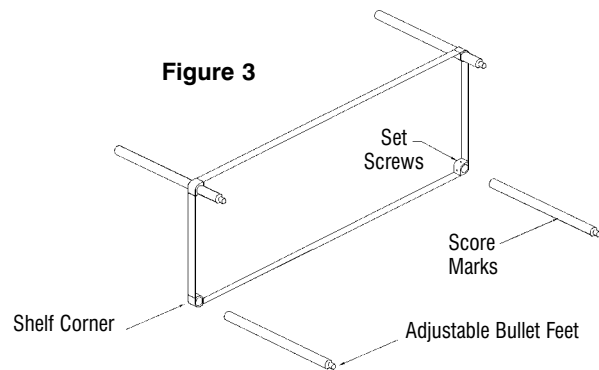

Figure 3
Insert set screws into adjustable shelf corner - (2) each corner (underneath shelf). Insert legs into adjustable shelf corner and set desired height. Tighten set screws. **(Figure 3)**